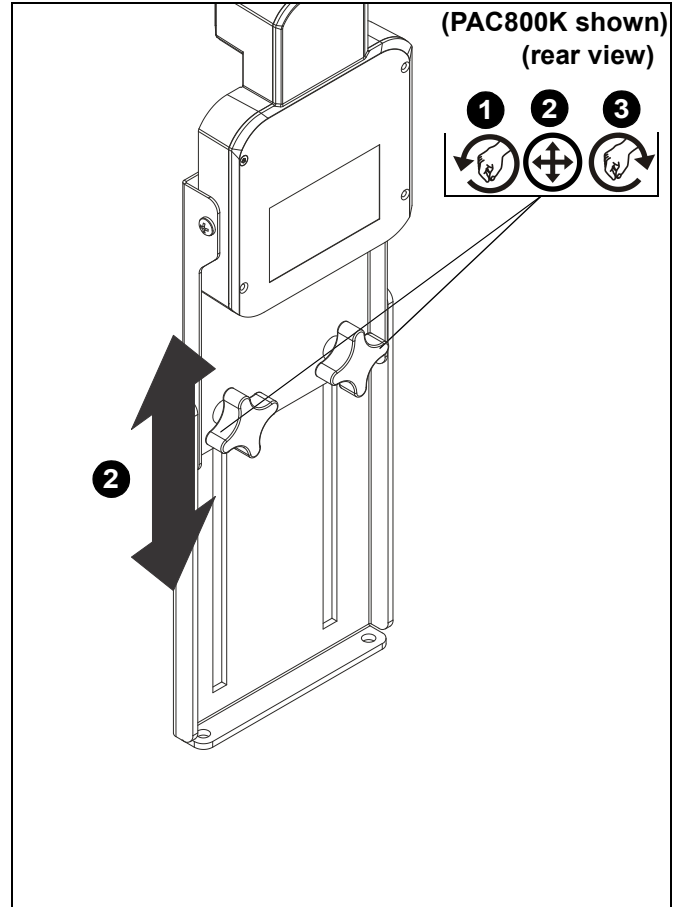

Figure 7
1. Loosen two adjustment knobs on the back of the main bracket (A). (See Figure 7)
2. Raise or lower bracket to desired height. (See Figure 7)
3. Tighten two adjustment knobs on the back of the bracket until mount is secure. (See Figure 7)